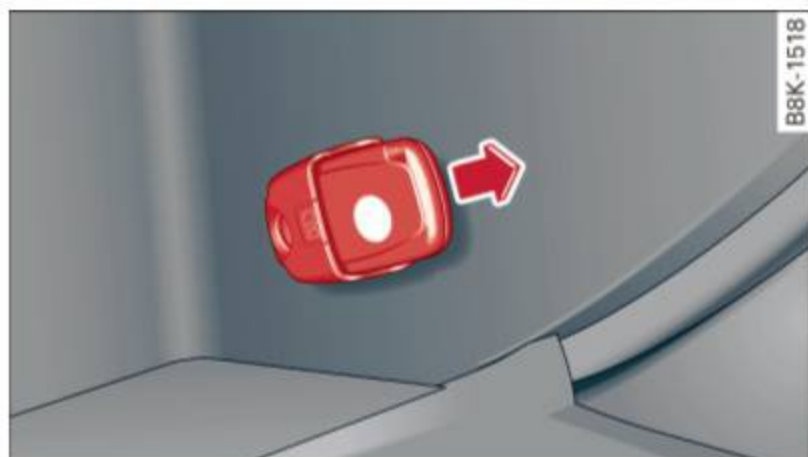

Fig. 75 Glove compartment: Adapter for emergency key
- ▶ Take the adapter for the emergency key out of the glove compartment ⇒ *fig. 75*.